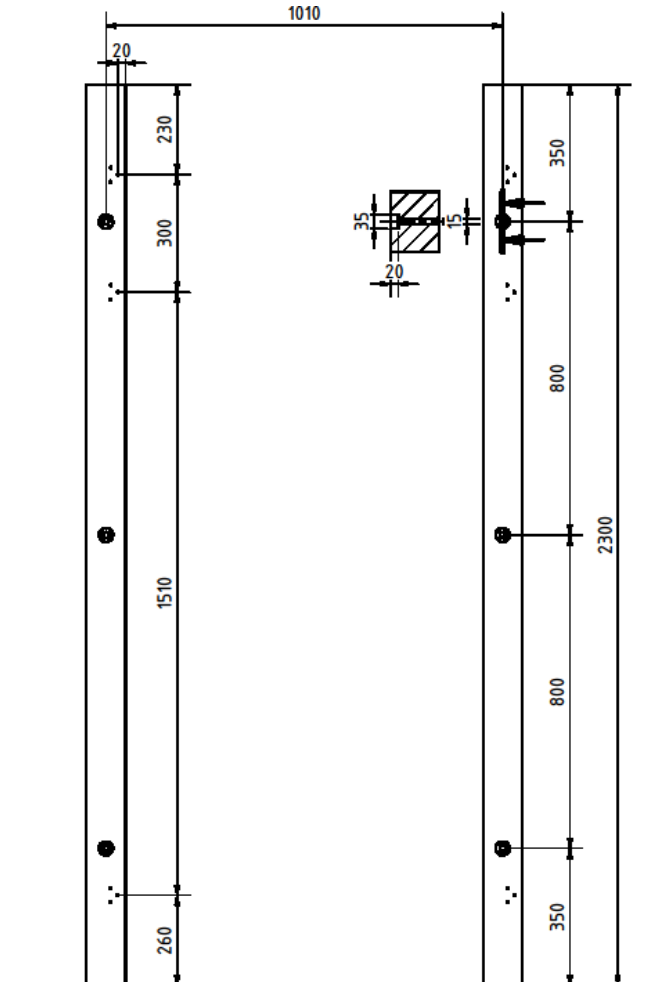
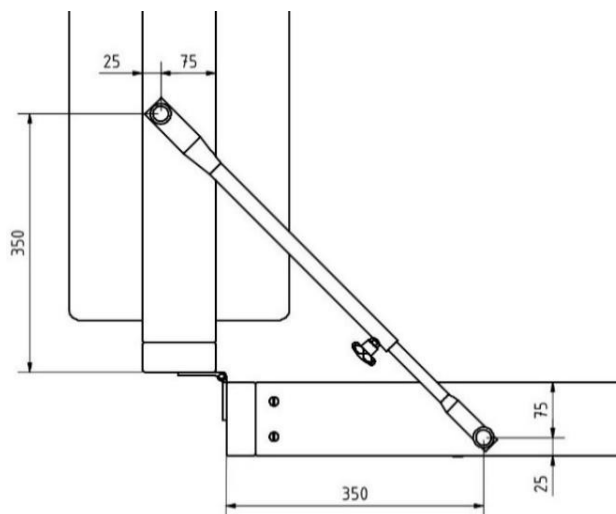

Figure 3: Drilling dimensions for the wall beams
Figure 4: Drilling dimensions for the telescopic arm
To assemble the individual climbing frame sections (1), the first task is to attach the beams (16) to the wall. Check for potential obstacles, such as pipes or electrical cables. We recommend using the drilling dimensions shown in figure 3, provided there are no interfering objects. If there are, the drilling points should be slightly offset.
Use the hex-head wood screws ⑫, washers ⑧ and plastic wall plugs ② to mount the beams. The layout and distances between the 14 mm holes to be drilled into the wall are shown in figure 3. Drill the holes for the telescopic arm in the top of the left and middle climbing frame sections (as indicated in figure 4).